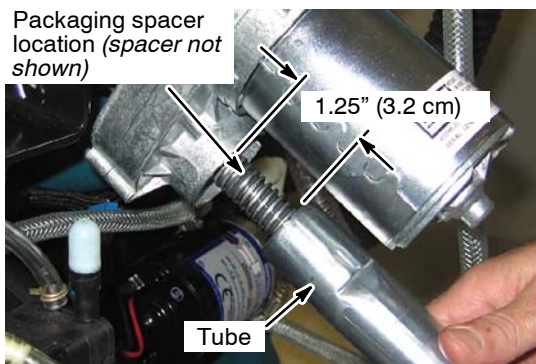

FIG. 5
3. The actuator is factory set at the upper limit switch position. A packaging spacer is inserted between the tube and gearbox to hold the setting. Remove the spacer. **Do not rotate tube.** (Fig. 5)